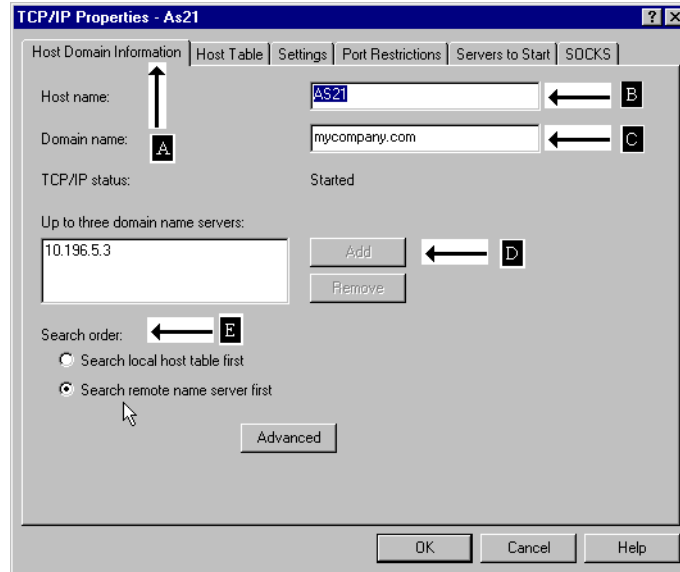

Figure 471. Host Domain Information
- h. Click the **Host Domain Information** tab (A) as shown in Figure 471.